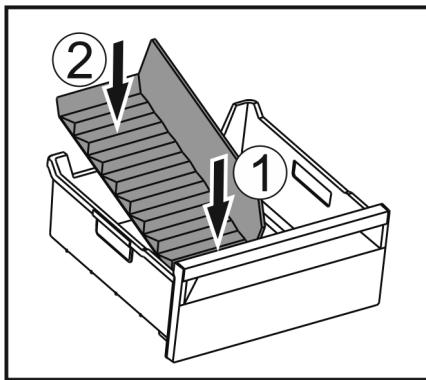

Fig. 150
- ▶ Insert the front part of the ice compartment divider. Fig. 150 (1)
- ▶ Lower the rear part of the ice compartment divider to the drawer bottom. Fig. 150 (2)